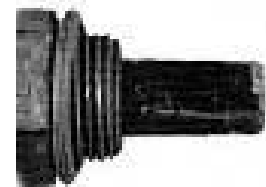

Fig. 1
- The protection sleeve is heavily sooted (Fig. 1): Engine runs with a too rich mixture. The sensor should be renewed and the cause for the too rich mixture should be repaired to prevent a new sooting.